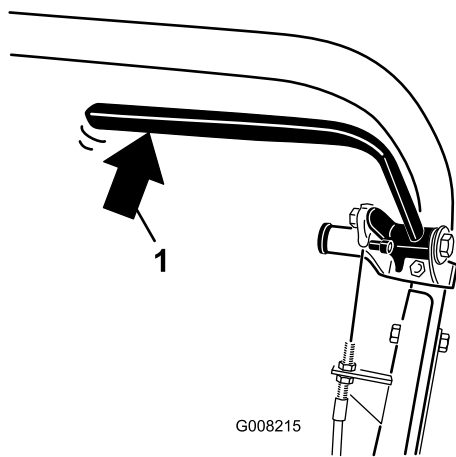

Figure 30
2. Using a spring scale, press rearward on the service brake lever (Figure 30). The parking brake should release when a force of 30 to 40 pounds is attained. If the parking brake releases before 30 to 40 pounds of force is attained, an adjustment to the brake cable is required. Proceed to step 3.